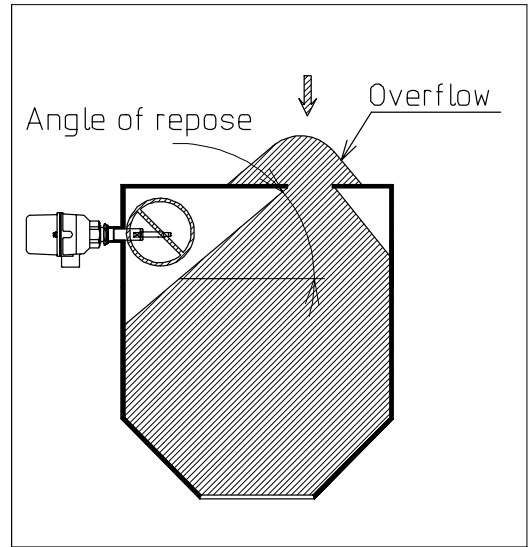

Fig. 4-5
- (6) When used as a high level control, calculate the angle of repose for measuring materials and install the detection rod where it surely covers. [See Fig. 4-5]